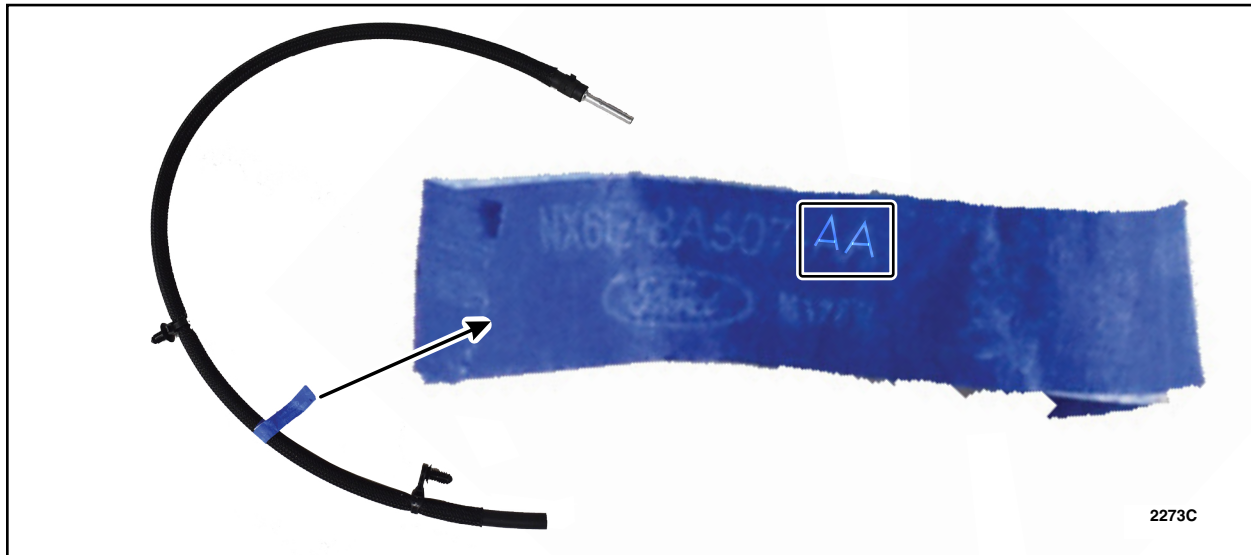

FIGURE 3
6. Inspect the part label on the drain tube. Is the suffix of the part an AA or AB? See Figure 3.